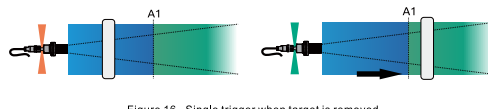

Figure 16 - Single trigger when target is removed
- When the moving distance (S) of the object is greater than the distance to the object is less than A1, the output signal switches. The working principle is shown in Figure 16. When operating, it is necessary to set a custom user range: A1 = S, A2 → ∞.